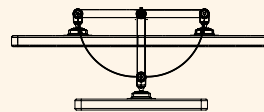

Figure 3.1 One-Link Arm Styles
One-Link Monitor Arms (styles 1, 3 and 8) are appropriate for environments with mounting points in close proximity to the user or when a short arm is preferred. These arm styles arc around the mounting point (Figure 3.1) and as such, the monitor must be moved to the left or right when adjusted in depth.
- The M4 Single Link Arm, as all Single-Link Arms, does not offer depth adjustment in front of the mounting point. Depth adjustment is achieved by arcing the monitor to the right or left of the mounting point (see Figure 3.1, page 21).
- The M7 Non-Adjustable Arm with One 8" Link, like all Single-Link Arms, does not offer depth adjustment in front of the mounting point. Depth Adjustment is achieved by arcing the monitor to the right or left of the mounting point (see Figure 3.1, page 21).
The M7 Non-Adjustable Arm with One 12" Link provides minimal depth adjustment. This arm moves the monitor to the left or right when adjusted in depth (see Figure 3.1, page 21).
- The M7 Non-Adjustable Arm with one 12" Link, as all single link arms, does not offer depth adjustment in front of the mounting point. Depth adjustment is achieved by arcing the monitor to the right or left of the mounting point (see Figure 3.1, page 21).